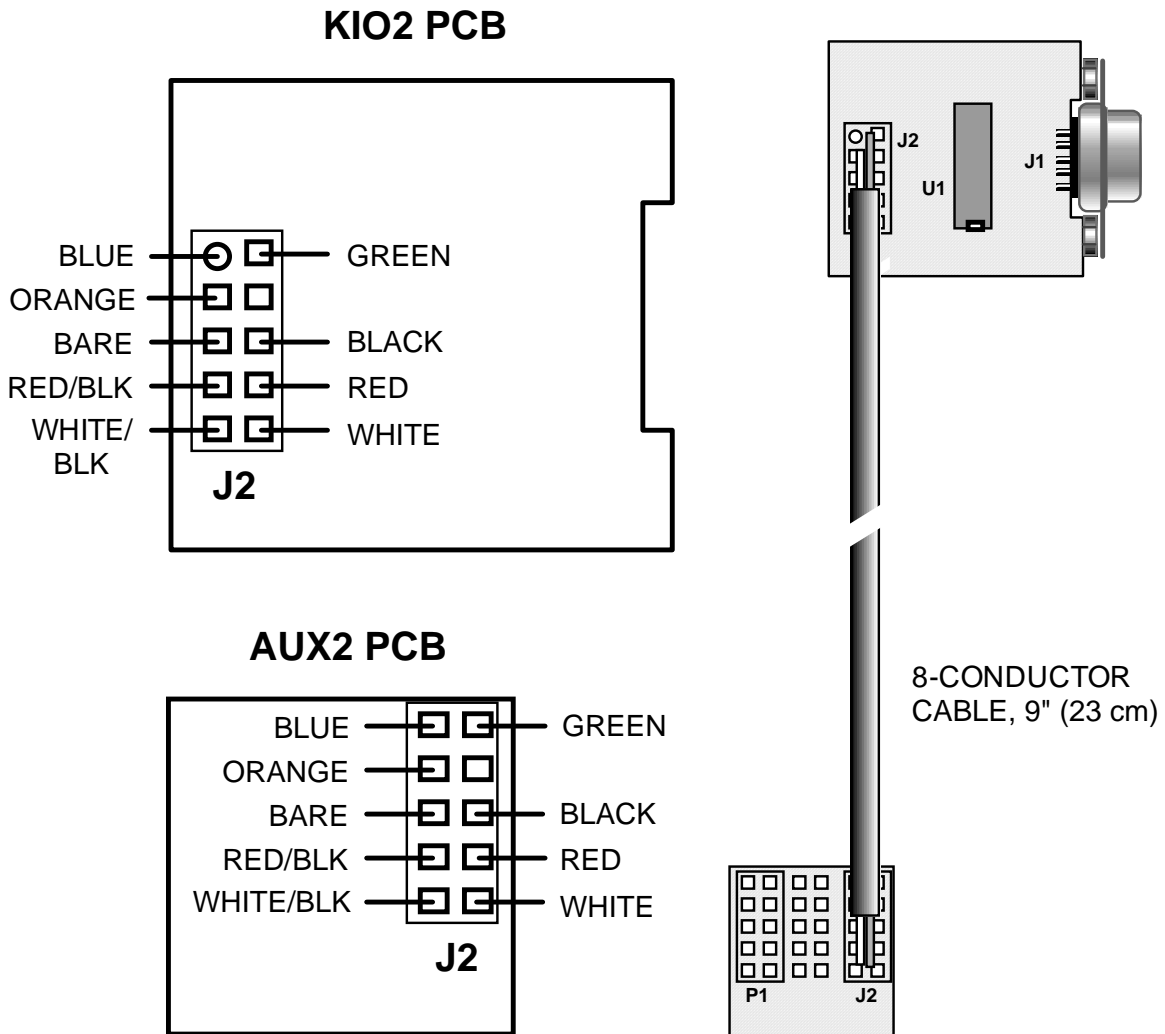

Figure 4
☐ Locate the 8-conductor shielded cable. This cable will be used to connect the KIO2 board to the AUX2 board as shown in Figure 4. Refer to this illustration during the next several assembly steps.
If a small vise is available, clamp the KIO2 board into it in the orientation shown in Figure 4. Otherwise you can lay the board on your work bench. **Be careful not to damage crystal X1 or other components when clamping the board into a vise.**
Using long-nose pliers, insert the wires of one end of the cable into the holes of J2 on the top side of the KIO2 board (Figure 4). Insert the wires in this order: BLUE (pin 1--**round** pad), GREEN (2), ORANGE (3), BARE (5), BLACK (6), RED/BLACK (7), RED (8), WHITE/BLACK (9), WHITE (10). Be sure to match the wire colors to their associated pads as shown. Note that the dual-row connectors have their pins numbered left to right and top to bottom, which is different from IC pin numbering.
Clamp the AUX2 PC board into a vise or place it on the work bench, using the exact orientation shown in Figure 4. Connector P1 should be at left, and the pads for J2 should be at right. A connector will not be used at J2. As before, the wires will be soldered into position here.
Insert the wires of the free end of the cable into the holes of J2 on the AUX2 board (Figure 4). Insert the wires in the same order as you did on the KIO2 board: BLUE (pin 1), GREEN (2), ORANGE (3), BARE (5), BLACK (6), RED/BLACK (7), RED (8), WHITE/BLACK (9), WHITE (10).